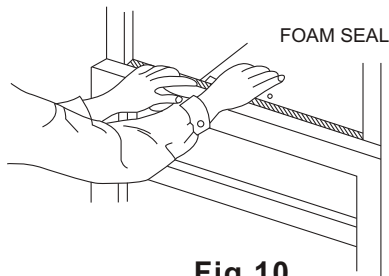

Fig.10
D. Cut foam window seal and insert it into the space between the upper and lower sashes. Fig. 10.